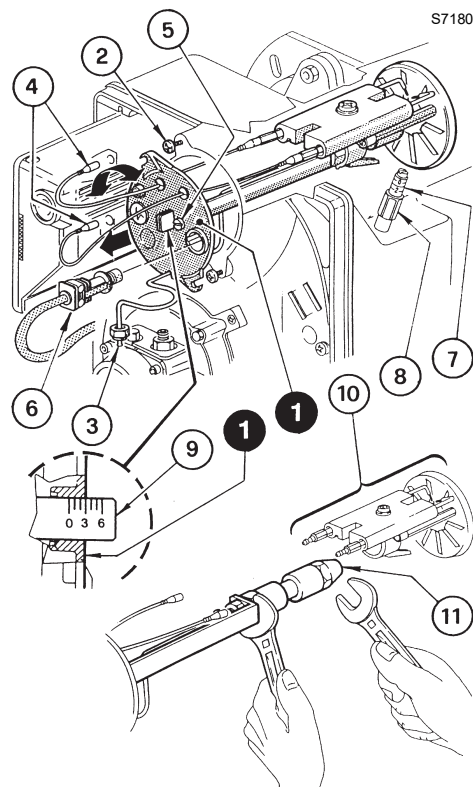
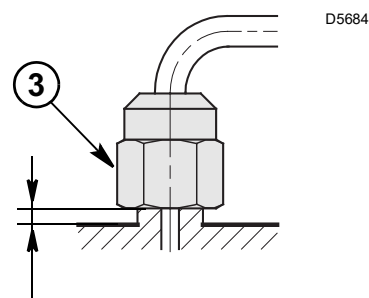
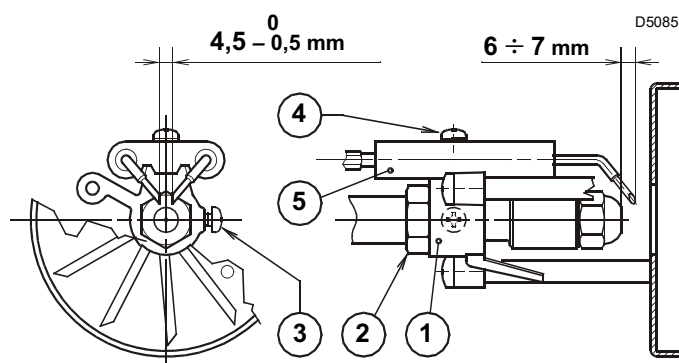

Fig. 13
Fig. 14
Fig. 15
- Disconnect cables (4) from flame control and pull out the flame sensor (6).
- Unscrew nut (3), loosen screws (2) and remove nozzle-holder assembly (1) by rotating slightly to the right.
- Disconnect cables (4) from electrodes, unscrew screws (3, Fig. 15, on page 9) and remove the diffuser disc support assembly (10) from nozzle-holder assembly (1).
- Replace nozzle (11) and screw new one on properly, holding it as illustrated in Fig. 13.
When refitting the nozzle-holder assembly (1, Fig. 13, on page 8), **screw on nut (3) without tightening it all the way** with a driving torque of 15 Nm, as illustrated in Fig. 14.
- To adjust air damper, proceed as follows: (Fig. 13, on page 8):
- Loosen nut (8) and adjust damper setting with the aid of the screw (7).
- Once you have finished adjusting, screw nut (8) back on.
- Replace the nozzle, (Fig. 13, on page 8) and check the correct position of electrodes (Fig. 15, on page 9).